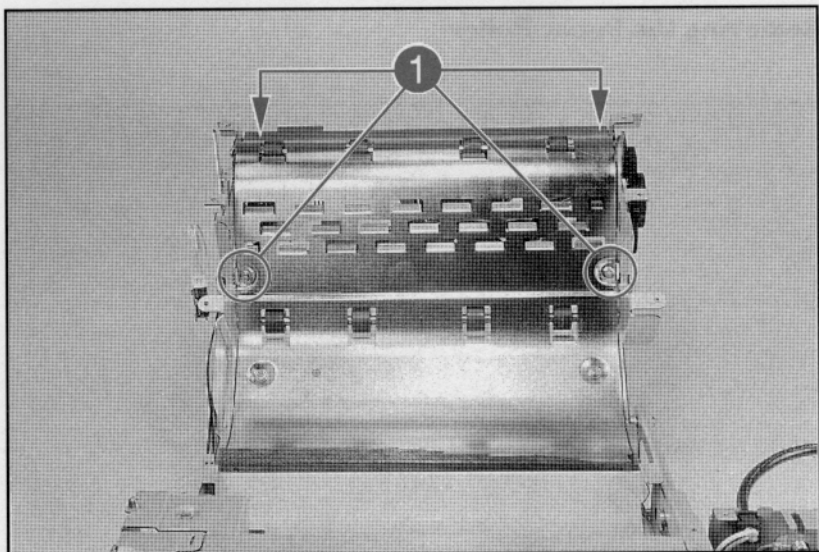

Figure A-14 **Upper Paper Guide Sheet Metal**
- 4 Remove the (4) screws on top of the sheet metal part of the upper paper guide shown in Figure A-14, callout 1.